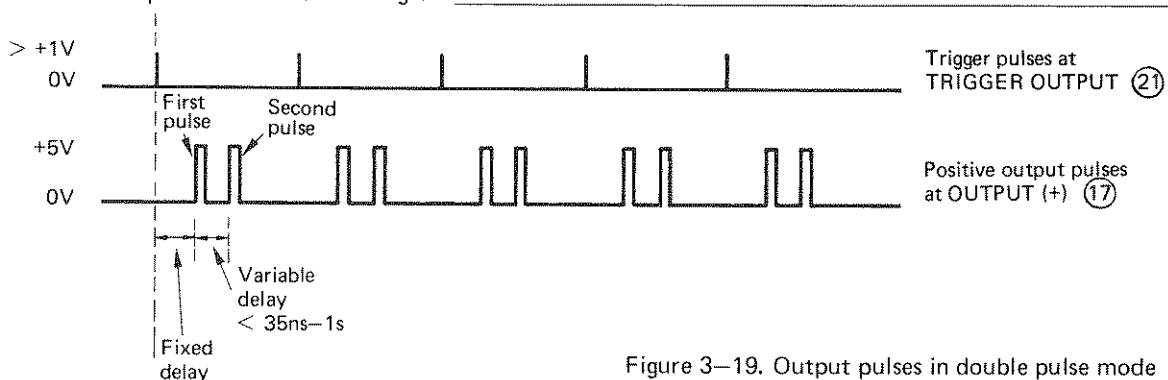

Figure 3-19. Output pulses in double pulse mode
3-48 The trigger and output pulses should appear at the TRIGGER OUTPUT (21) and OUTPUT (+) (17) connectors as shown in Figure 3-19.